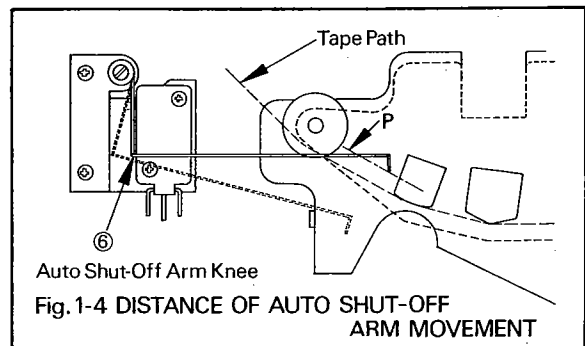

Fig. 1-4 DISTANCE OF AUTO SHUT-OFF ARM MOVEMENT
6. The AUTO SHUT-OFF ARM does not go further when the AUTO SHUT-OFF ARM KNEE (6) hits the AUTO SHUT-OFF SWITCH or when the AUTO SHUT-OFF ARM hits the AUTO SHUT-OFF ARM STOPPER. (See Figure 1-4.) See that the TAPE CONTACT BAR of the AUTO SHUT-OFF ARM is inside the TAPE PATH before the AUTO SHUT-OFF ARM KNEE hits the AUTO SHUT-OFF SWITCH. If not, loosen the AUTO SHUT-OFF SWITCH SCREWS and adjust the AUTO SHUT-OFF SWITCH and AUTO SHUT-OFF ARM again, or bend the AUTO SHUT-OFF ARM,